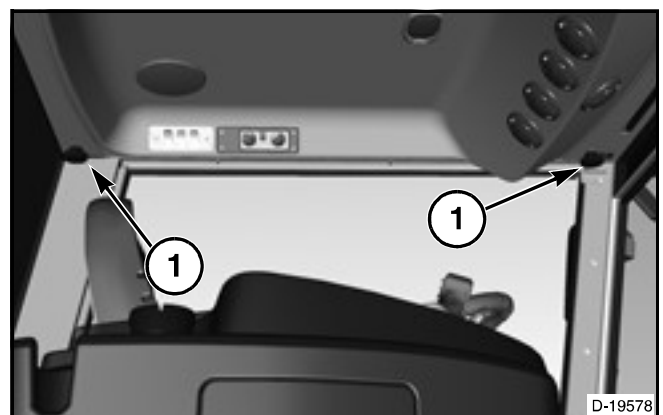

FIG. 7
FIG. 7: To lift the cab roof, remove the two knobs (1) that fasten the cab roof to the cab frame. The knobs are inside the cab on the front and rear corners of the left-hand side.